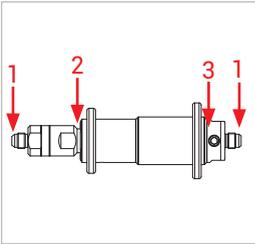
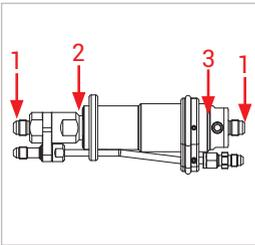

Figure 5
Figure 6
- ▶ Check the following measuring points, as shown in *Figure 5* and *Figure 6* :
- fittings (1)
- area of the clamping jaws (2)
- area of the eccentric actuator (3)